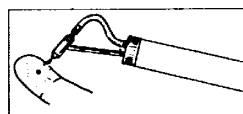

Fig. 6
3. Hold the nozzle approx. 1 cm from the finger tip angulating the nozzle at right angles to the surface of the finger tip. (Fig.6)
5. While maintaining pressure on the foot control, slowly reduce the water flow until the powder is seen to just begin to collect on the finger at this distance, as shown in (Fig. 6). A white spot of powder approx. 2 -3 mm in diameter will be seen.